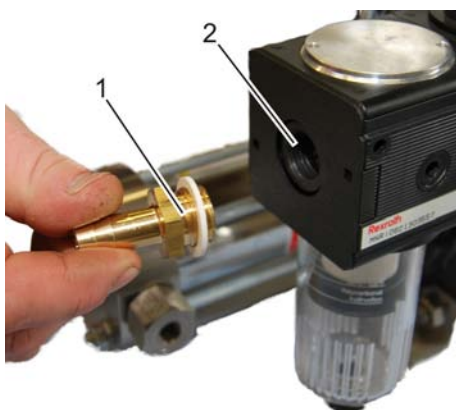

Fig. 13: Drive air connection (compressed air control unit)
2. ➔ Insert connecting piece or pipe (G 3/4 ") (Fig. 13/1) into drive air connection (PL) of compressed air control unit (Fig. 13/2) together with seal and tighten using a torque of 50 Nm.